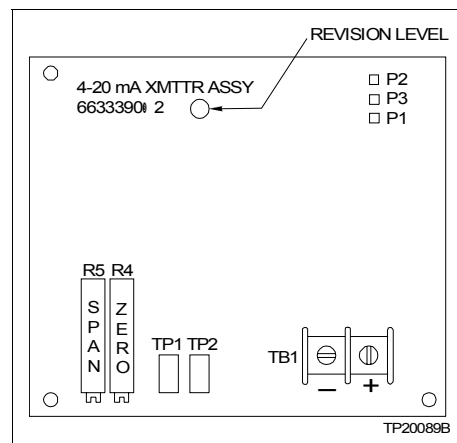

Figure 3-22. Electric Shaft Position Transmitter Circuit Board
2. Reverse P1 and P2 on the transmitter circuit board (Fig. 3-22).